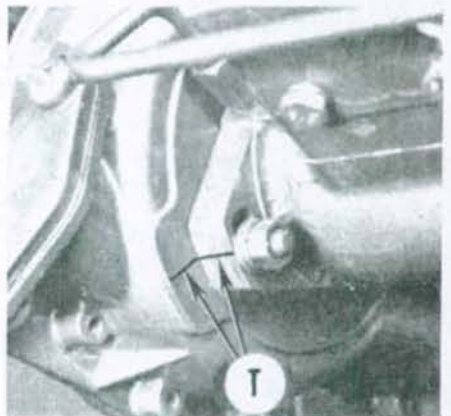

Fig. 96—Timing marks (T) should be aligned when pump is reinstalled.
If "E" mark is slightly out of alignment with end of snap ring, the mounting holes in pump flange are elongated to permit minor timing variations. If it is necessary to move pump, check alignment of timing marks on pump flange and timing gear case (Fig. 96) and scribe new lines as necessary. If "E" mark cannot be aligned by shifting pump on mounting studs, either the No. 1 piston is not on compression stroke or engine timing gears are not timed correctly.
To reinstall pump, align milled slot (S—Fig. 98) in pump shaft with dowel (D—Fig. 97) and insert pump. Align timing marks (T—Fig. 96) on pump flange
**NOTE:** Pump can only be installed in one position. If timing gear train has not been disturbed and timing marks (T—Fig. 96) are aligned, timing should be correct.